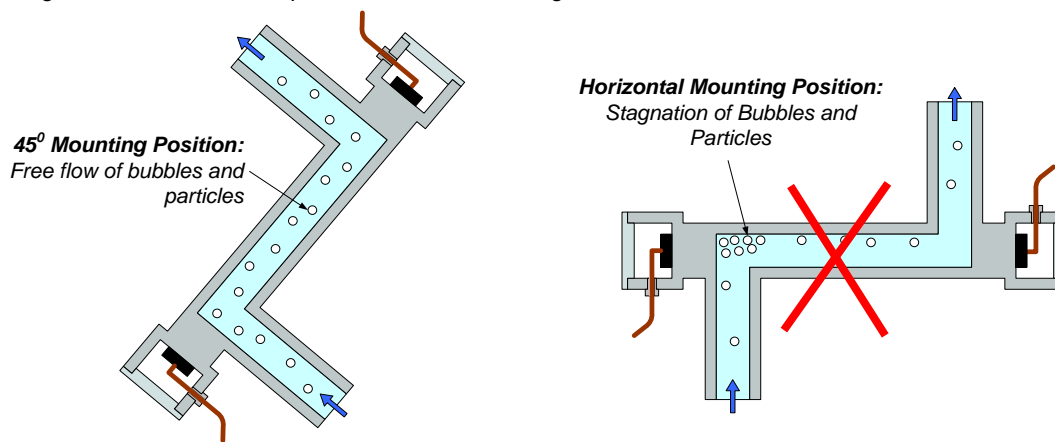

Figure 13: Mounting position of flowsensor
4. Ideal mounting position for the flow sensor is 45° (see Figure 13) with upward flow direction to avoid the stagnation of bubbles and particles in the measuring tube.